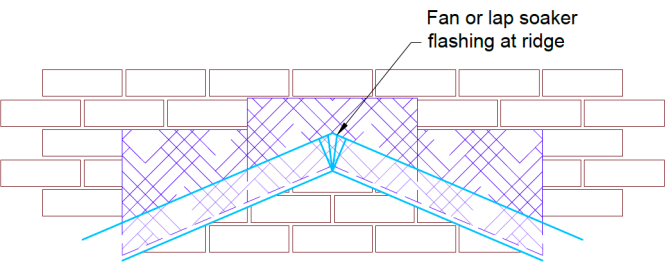

Figure 3: Ridge Soaker Flashing
- lapped or fanned at ridge as shown in Figure 3.